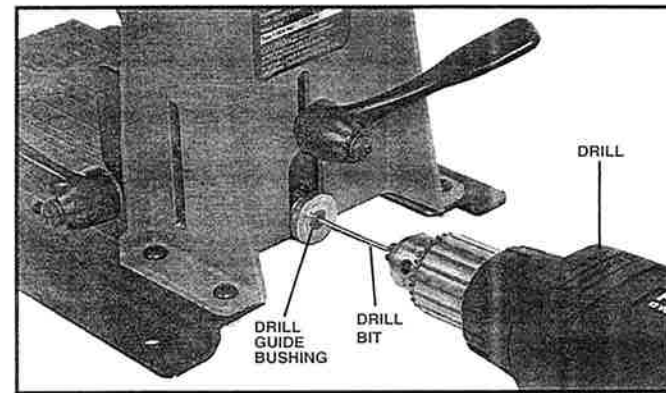

Fig. 12
6. BEFORE RELEASING WORK CLAMP, drill clearance hole for screw (see Fig. 12).